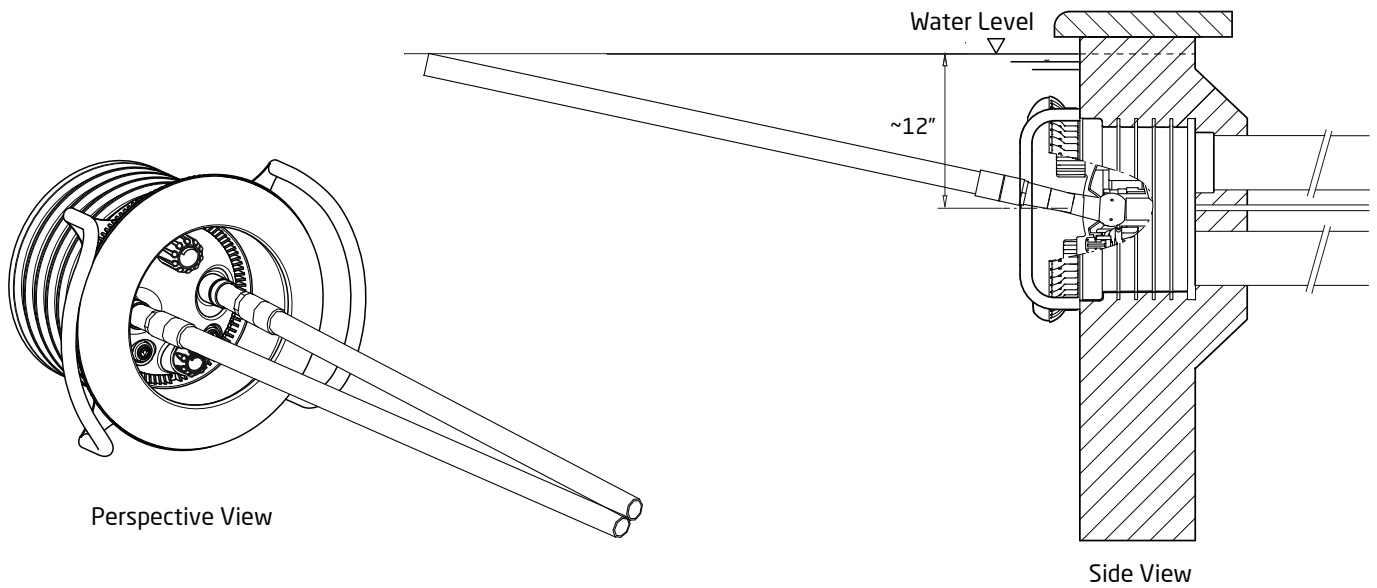

Figure 25
4. Bring the ends of the adjustment tools together so they are touching in between the jet housings. Then raise the tools together so the ends touch the water surface. (See Figure 25)